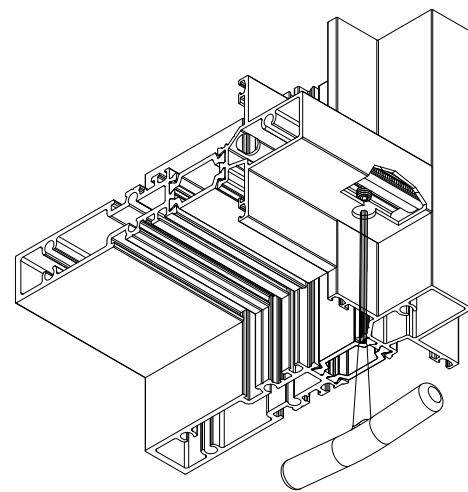

FIG. 5
- Using $\frac{3}{32}$ " Hex Key Lock tighten the set screw between vertical and horizontal mullions. **See FIG 5**